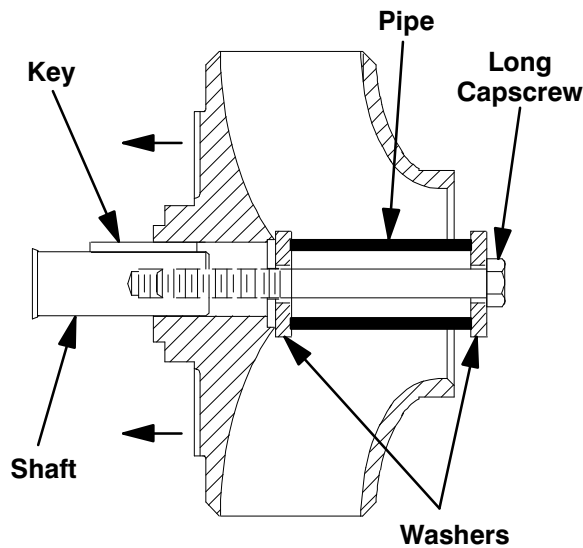

Figure 9. Installing Impeller
Install the same thickness of impeller adjusting shims (52) as previously removed. Install the shaft key (38) and position the impeller on the shaft. See Figure 9, and use a section of pipe, washers and a long, 5/8–11 UNC capscrew to press the impeller onto the shaft until fully seated (**do not use the im-**